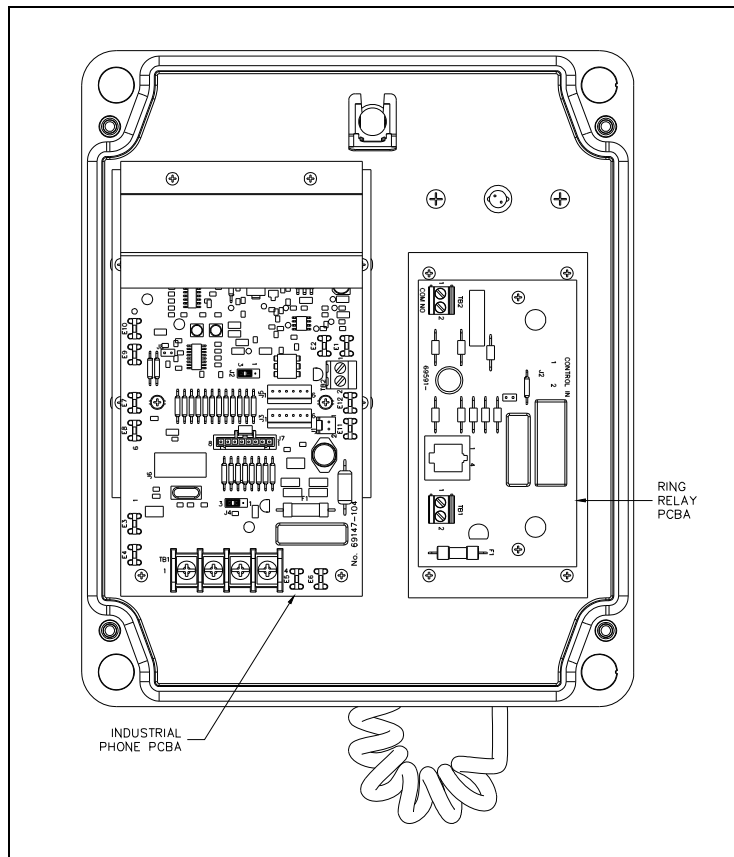

Figure 7.
7. Align the Ring Relay PCBA with the two standoffs (part of the Ringer Relay Mounting Plate). (Note the PCBA orientation in Figure 7).